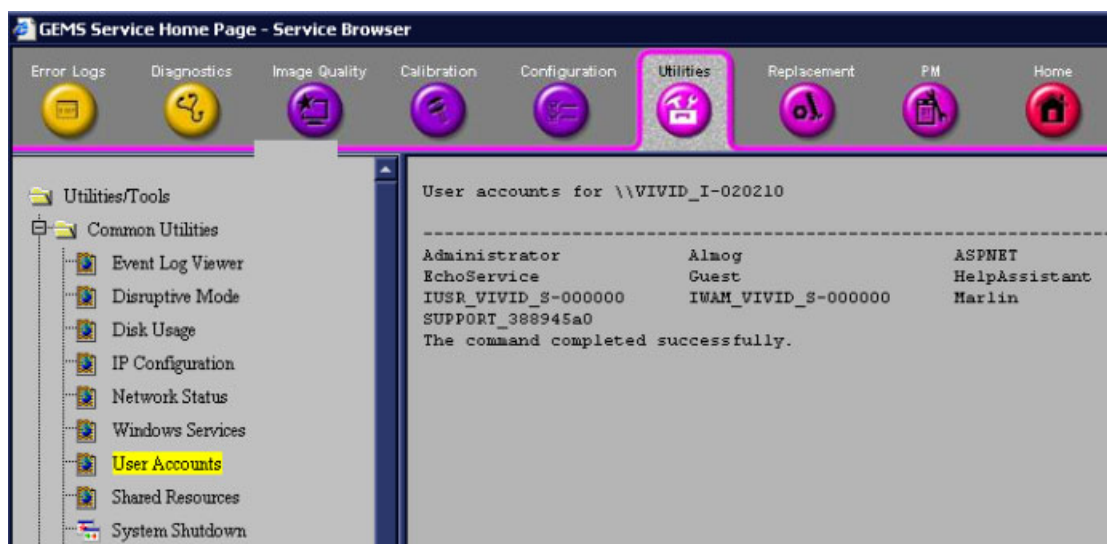

Figure 7-128 User Accounts
- **User Accounts** - states those users registered on the system - see Figure 7-128.